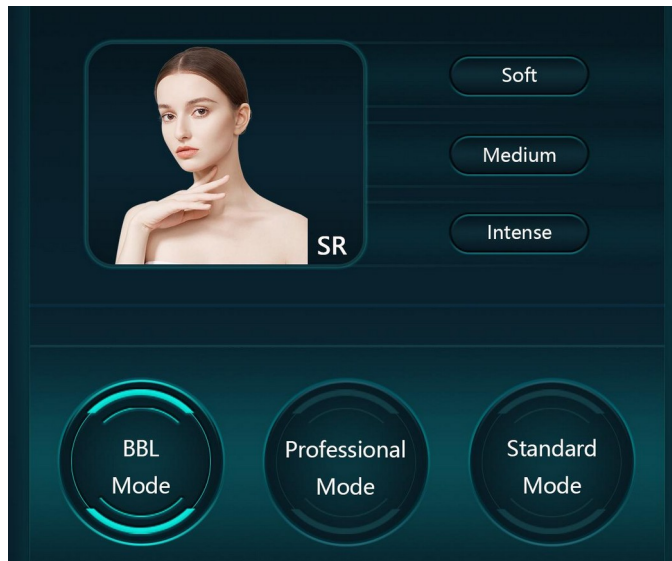

Figure 5.11
5. Once you select SR mode, press the “Enter” key to go to the next parameters. There are 3 working modes to select from: SSR/BBL Mode, Standard Mode, and Professional Mode (optional filter) (see Figure 5.11).